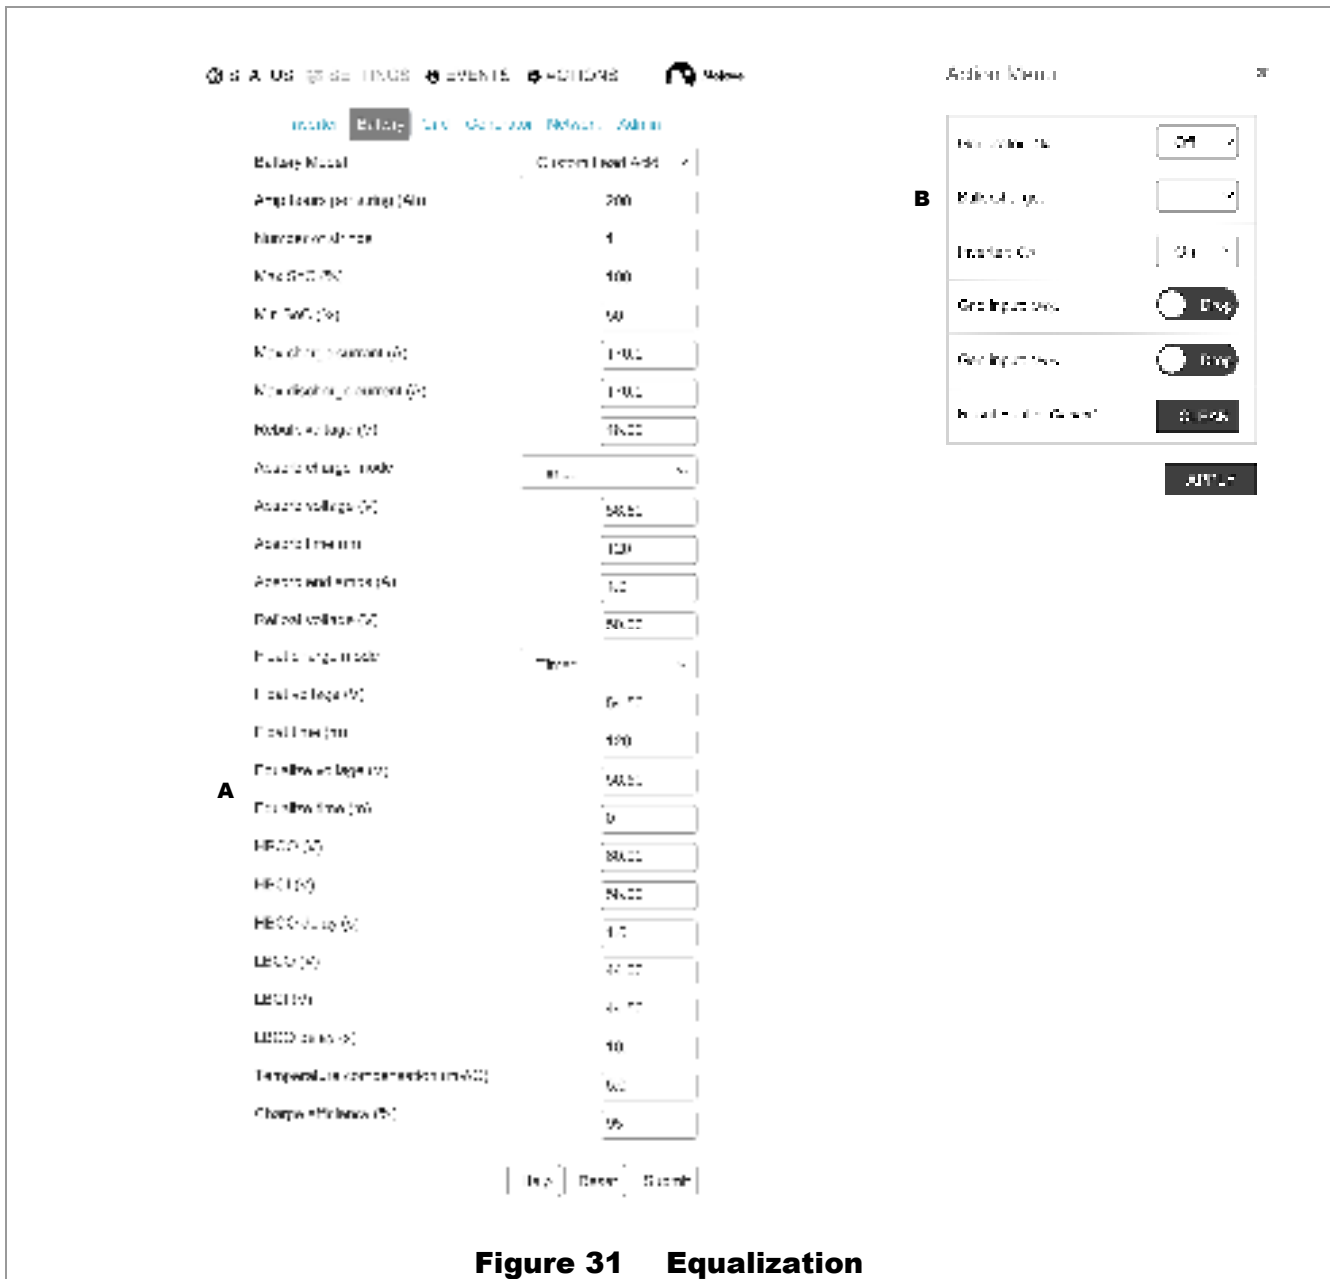

Figure 31 Equalization
Equalization follows the same pattern as standard three-stage charging, as shown in Figure 27 on page 55. However, instead of the Absorption voltage and time set points, it is controlled by the **Equalize voltage (V)** and **Equalize time (m)** settings. (See **A** in Figure 31. Also see page 50).
This process is started in the **ACTIONS** view by manually setting **Bulk Charge** to **EQ Start**. (See **B** in Figure 31.) The inverter cannot be programmed for automatic battery equalization. This is a safety measure.